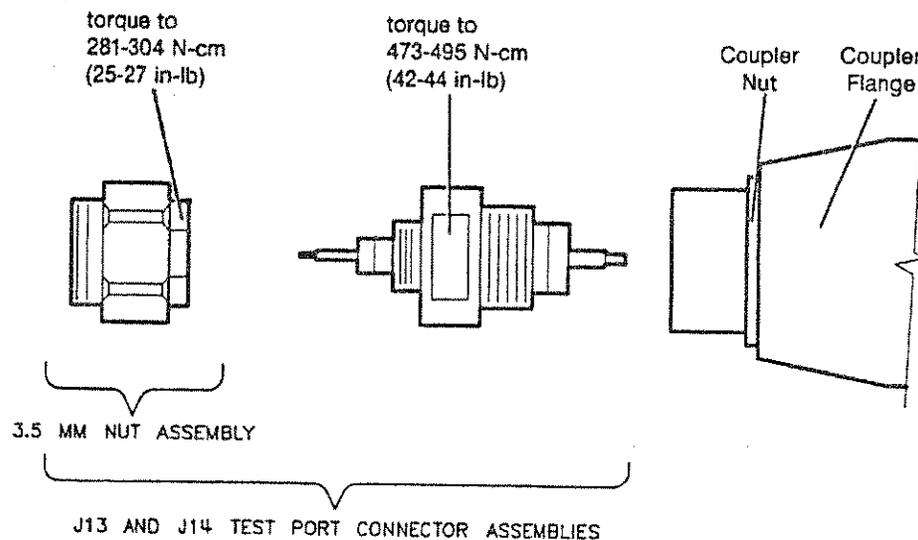

Figure 5-17. Exploded View of the 3.5 mm Port Connector
Refer to Figure 5-17 and the following text to replace or repair these 3.5 mm test port connectors.
2. Replace with a new test port connector assembly using a 5/8 inch torque wrench to the limits called out in Figure 5-17.
3. Torque with a 9/16 inch torque wrench to the limits set in Figure 5-17.
(16) T1 POWER TRANSFORMER